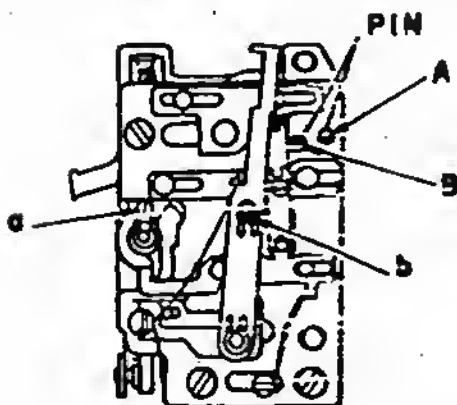
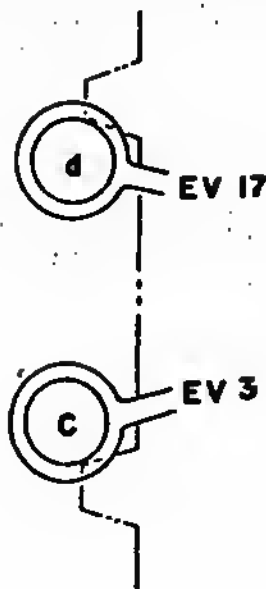

Fig. 1
Fig. 2
(1) Start Position Adjustment
- (b) Align the EV3 position hole in the cam/puiley with the hole "A" in Figure 1 and install the pin to hold the position. (See also Figure 9)
- (d) Adjust eccentric "a" in Figure 1 so the match needle is aligned as shown in Figure 2 "C"
(2) Stroke Adjustment
- (a) Align EV 17 hole with hole "B" in Figure 1 and install pin.
- (c) Adjust eccentric "b" in Figure 1 until the match needle is adjusted to position "d" in Figure 2.
- (3) Repeat procedure to insure that the stroke adjustment is correct.